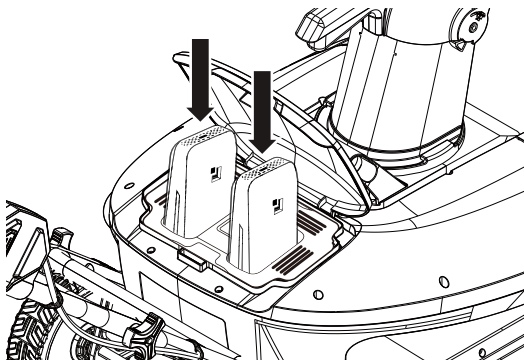

Fig. 16
1. Open the compartment cover, and slide the 2 battery packs into the port inside the compartment. Push to the end with sufficient force until the battery packs click to lock in place. (Fig. 16)